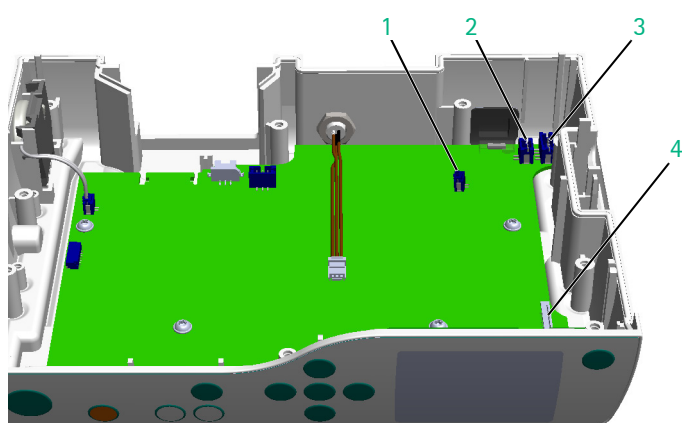

Fig. 3 - 15
8. Disconnect the connector of the stepper motor (Fig. 3 - 15 / Item 3) on the processor board.
9. Completely unlock the connector for the connecting cable of the sensor board and pull out the ribbon cable (Fig. 3 - 15 / Item 4).